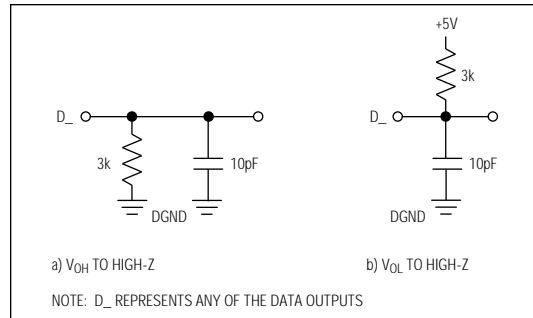

Figure 2. Load Circuits for Data-Hold Time Test
**Note 7:**  $t_7$  is defined as the time required for the data lines to change 0.5V when loaded with the circuits of Figure 2.